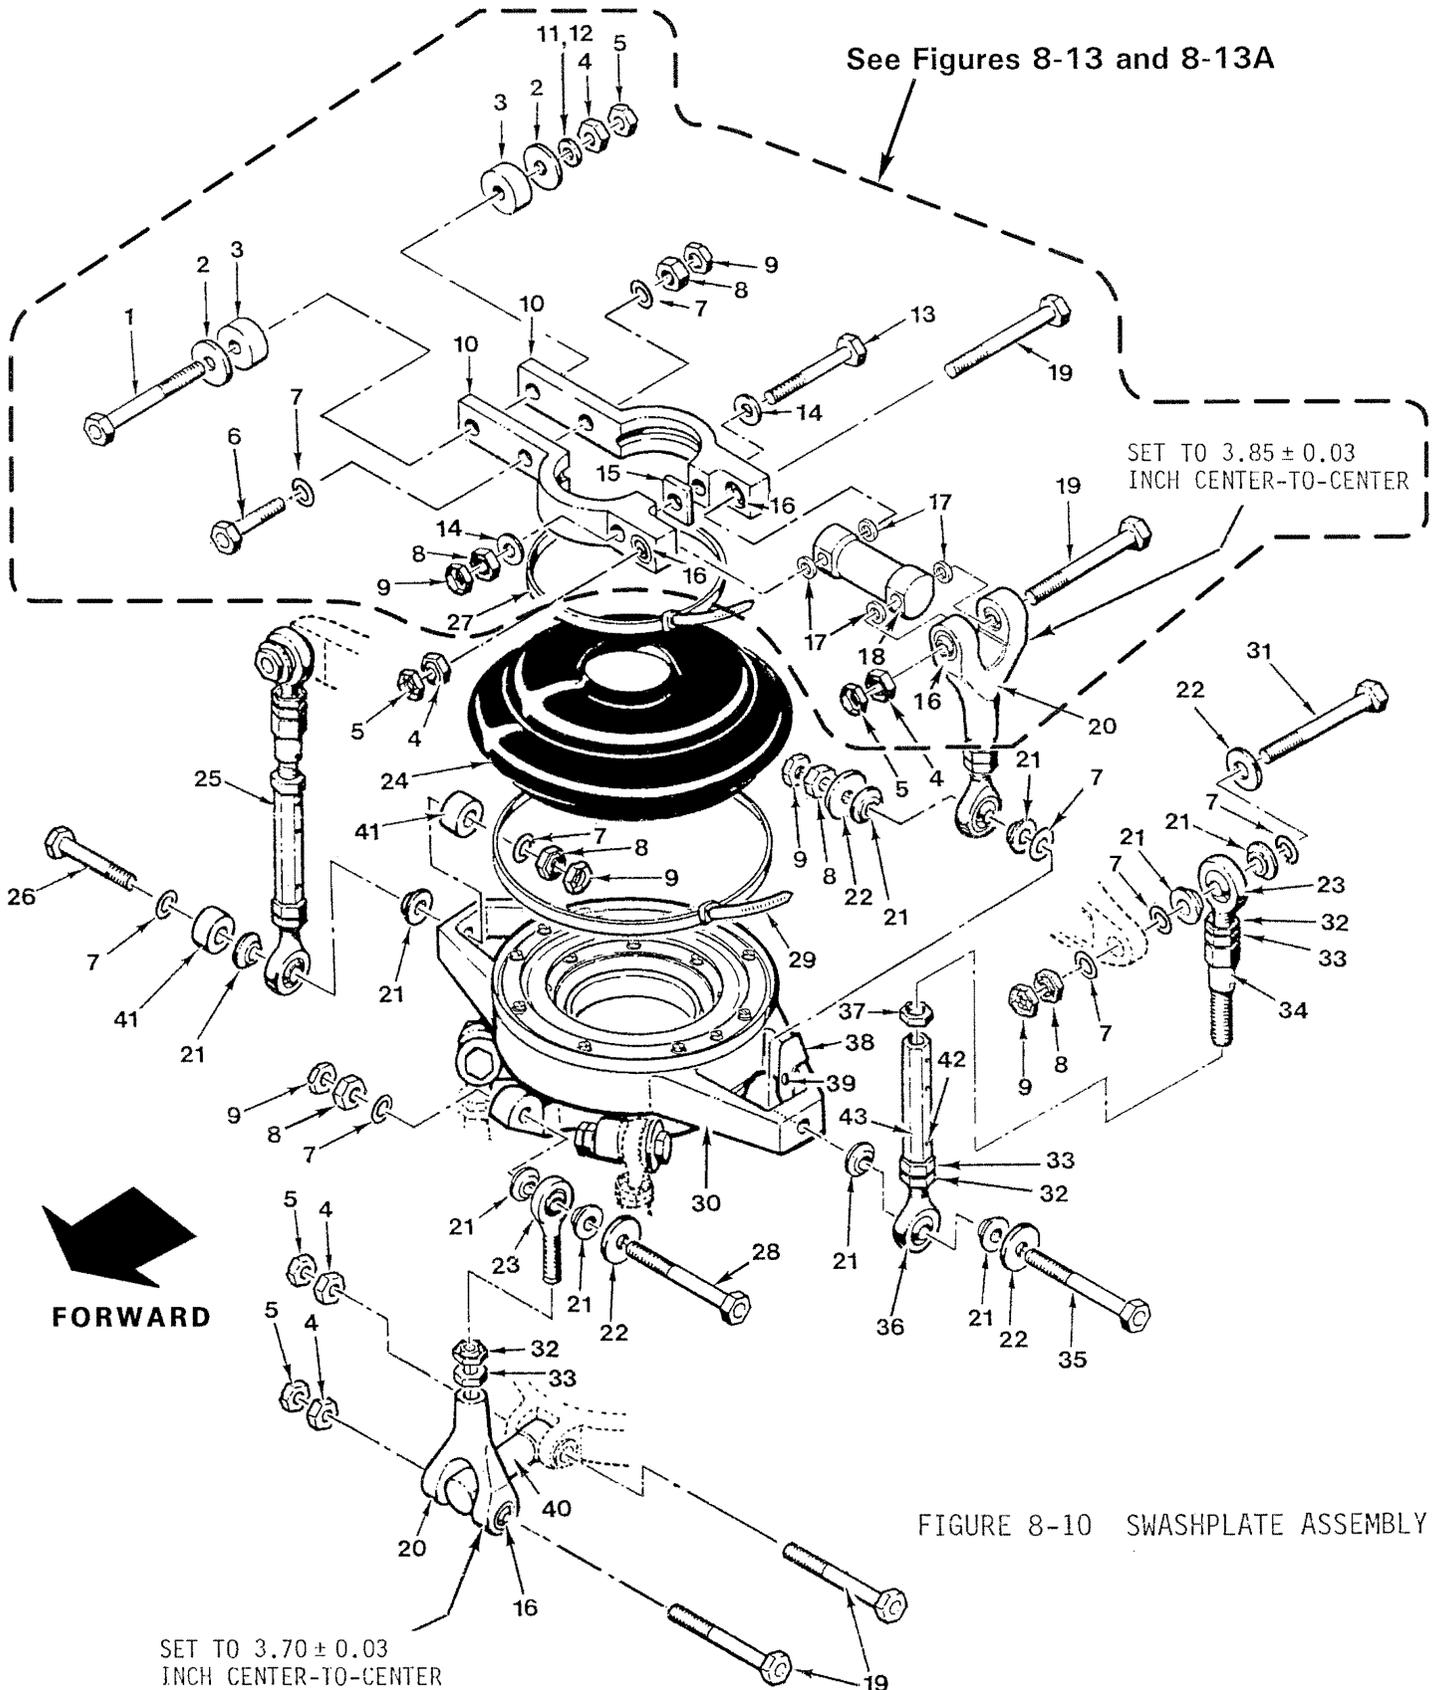

FIGURE 8-10 SWASHPLATE ASSEMBLY
8.412 Swashplate Installation (see Figure 8-10)